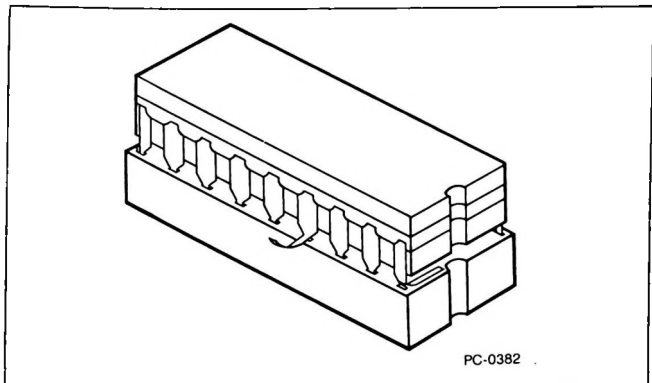

Figure A-6 *Bent pins*
- 6 Carefully examine the chip's pins. Look for any pins that are bent under or out. (See Figure A-6.) If you find bent pins, remove the chip, gently straighten them, and go back to step 2.